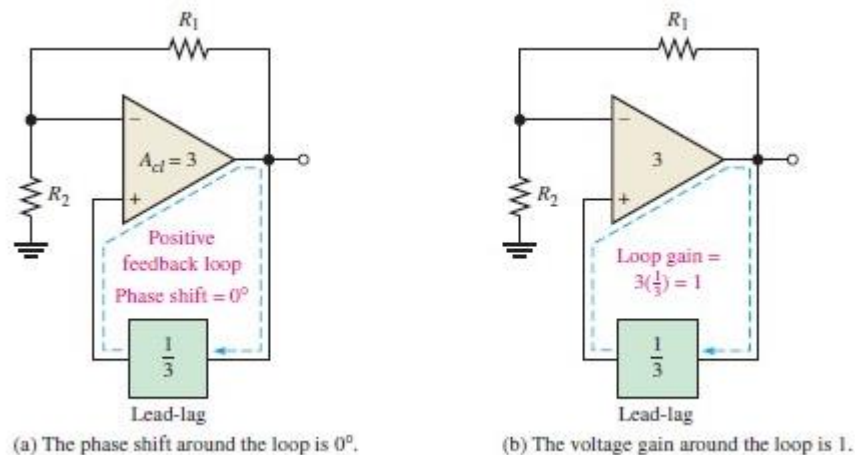

Fig.8 :Conditions for sustained oscillation.
As you know, for the circuit output to oscillate, the phase shift around the positive feedback loop must be 0° and the gain around the loop must equal unity (1). The 0° phase-shift condition is met when the frequency is f_r because the phase shift through the lead-lag circuit is 0° and there is no inversion from the non-inverting input of the op-amp to the output. This is shown in Figure 8(a).
This offsets the $1/3$ attenuation of the lead-lag circuit, thus making the total gain around the positive feedback loop equal to 1, as shown in Figure 8(b). - To achieve a closed-loop gain of 3
$$R_1 = 2R_2 \text{ (as per shown in figure 8)}$$